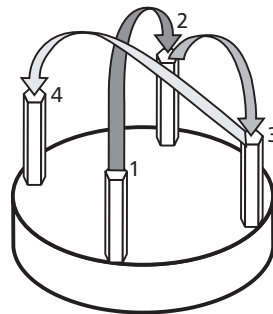

Figure 5-31: Torquing the Standoffs
- It is very important that the standoffs in the manifold assembly be torqued down properly (Figure 5-31).
1. Use the specified in.-lb. torque wrench to torque the standoffs to 10 in.-lb. (115 N-cm) in an alternating sequence (Figure 5-31).